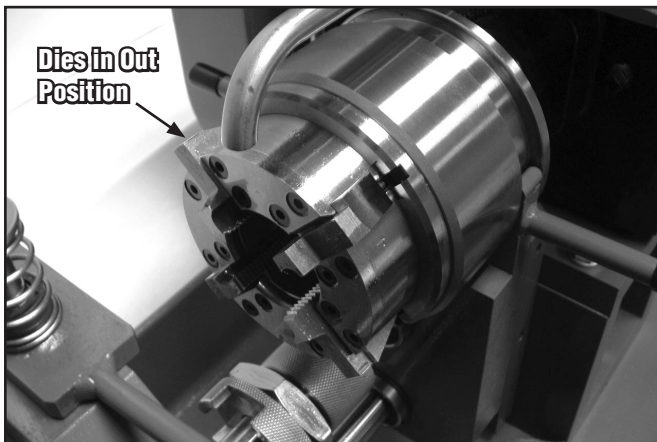

Figure 8
- 5.3.3 You may have to start and stop the machine quickly to get the die head to stop spinning in a good position to have access to the head release lever. Turn the machine off and unplug the power cord. Next, press head release lever in (located on adjusting ring) with an implement, such as a screwdriver, to allow the die head to spring back into extreme open position (Figure 8). The die chaser slots should now be fully exposed with the die head in this position.